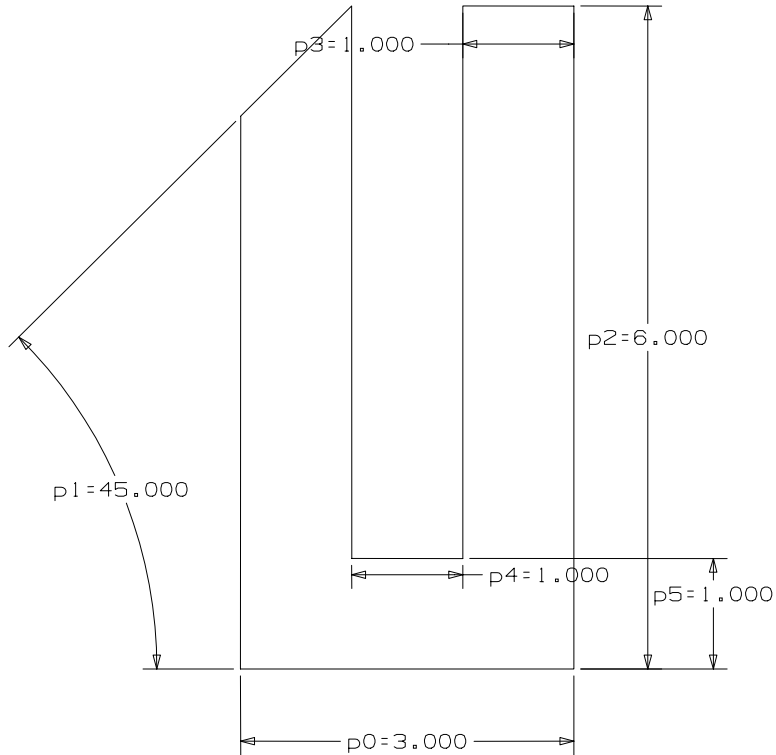

Figure 31
- The result is shown in Figure 31.